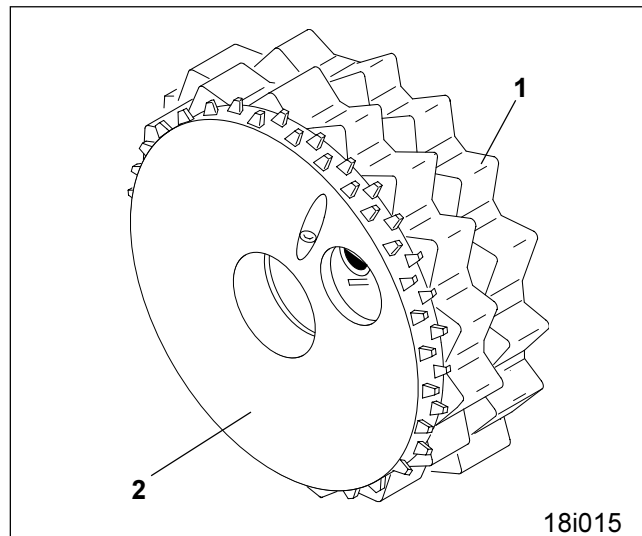

Fig. 10.2
As standard AMAZONE-seed drills are equipped with Elite-metering wheels (Fig. 10.2) Elite-metering wheels are composed of the main seed metering wheel (Fig. 10.2/1) and the fine seed metering wheel (Fig. 10.2/2).
- Turn the main seed metering wheel (Fig. 10.2/1) on the seed shaft until the pin in the metering wheel can be seen.